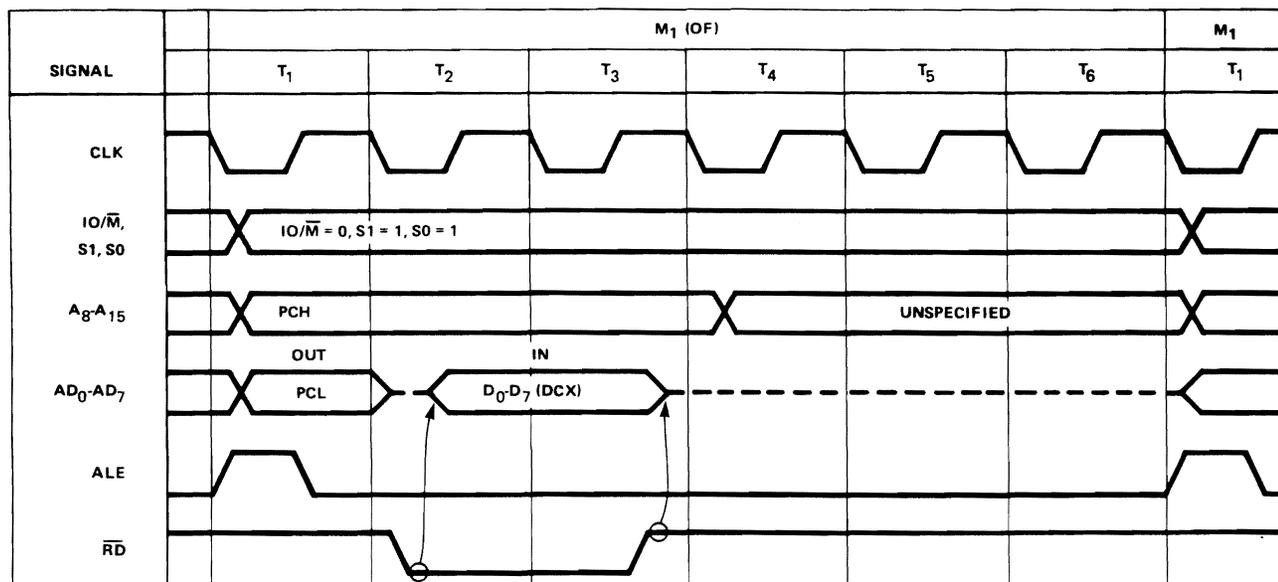
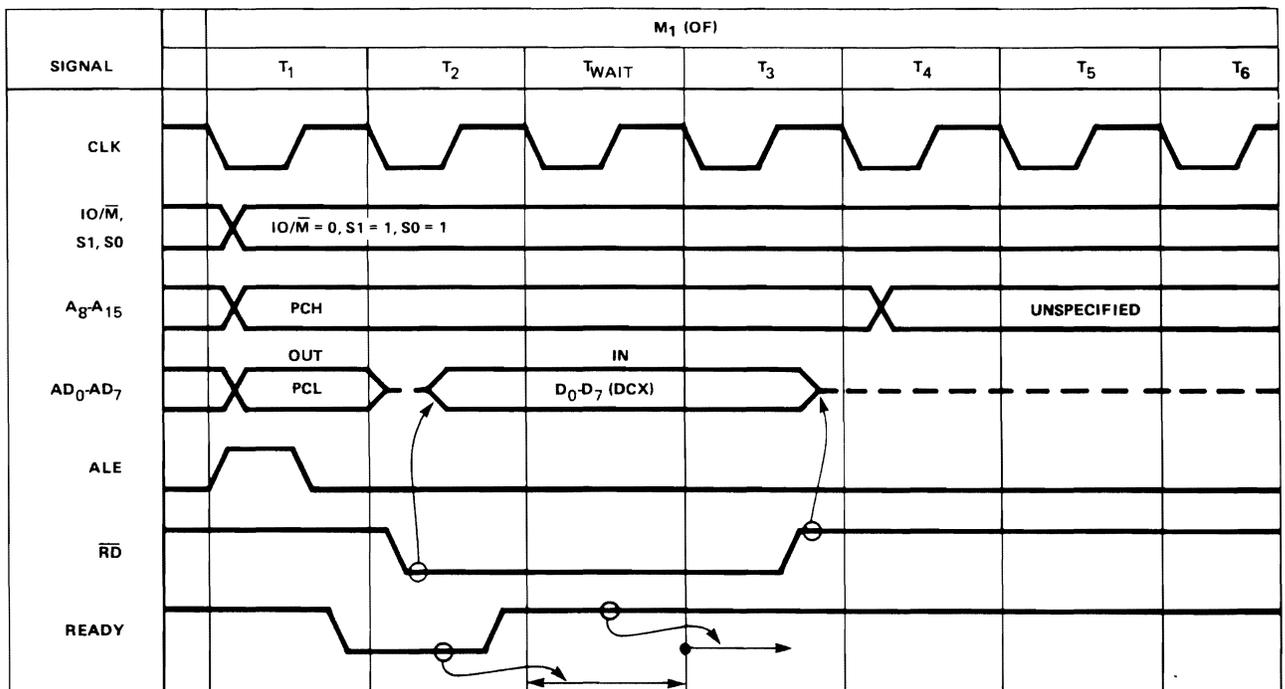
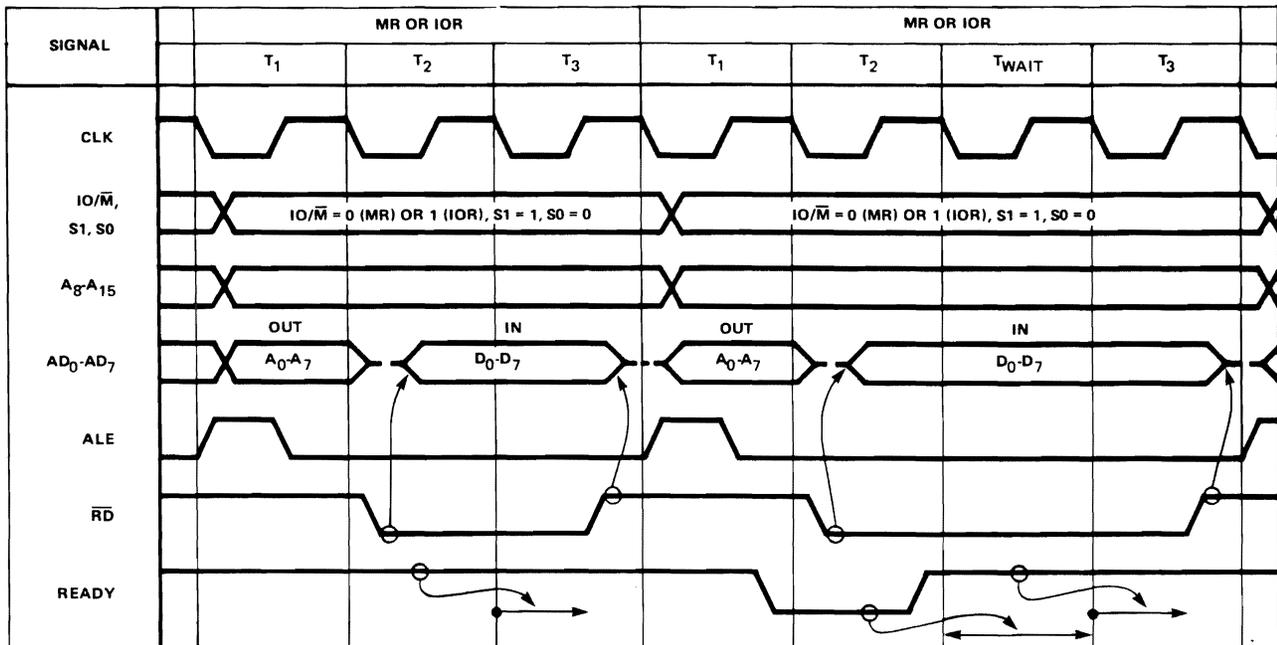

Figure 4-3. Opcode Fetch Machine Cycle
Figure 4-4. Opcode Fetch Machine Cycle (With Wait)
Figure 4-5. Memory Read (or I/O Read) Machine Cycles
Figure 4-3 shows the timing relationship of a typical opcode fetch machine cycle. At the beginning of T1 of every machine cycle, the CPU performs the following:
- c. Places low-order bits (PCL) of program counter onto address/data lines AD0-AD7. These address bits will remain true for only one clock cycle, after which AD0-AD7 go to their high-impedance state as indicated by the dashed line in figure 4-3.
Figure 4-4 is identical to figure 4-3 with one exception, which is the use of the READY input to the CPU. As shown in figure 4-4, the CPU examines the state of the READY input during  $T_2$ . If the READY input is high, the CPU will proceed to  $T_3$  as shown in figure 4-3. If the READY input is low, however, the CPU will enter the  $T_{wait}$  state and stay there until READY goes high. When READY goes high, the CPU will exit the  $T_{wait}$  state and enter  $T_3$ . The external effect of using the READY input is to preserve the exact state of the CPU signals at the end of  $T_3$  for an integral number of clock periods before finishing the machine cycle. This 'stretching' of the system timing, in effect, increases the allowable access time for memory or I/O devices. By inserting  $T_{wait}$  states, the CPU can accommodate slower memory or slower I/O devices. A common use of the READY input is to single-step the CPU using a manual switch. It should be noted, however, that access to the on-board memory and I/O ports does not impose a  $T_{wait}$  state.
Figure 4-5 shows the timing of two successive memory read machine cycles, the first without a  $T_{wait}$  state and the second with one  $T_{wait}$  state. Disregarding the states of the S0 and S1 lines, the timing during  $T_1$  through  $T_3$  is identical with the opcode fetch machine cycle shown in figure 4-3. The major difference between the opcode fetch and memory read cycles is that an opcode fetch machine cycle requires four or six T-states whereas the memory read machine cycle requires only three T-states. One minor difference between the two cycles is that the memory address used for the opcode fetch cycle is always the contents of the program counter (PC), which points to the current instruction; the address used for a memory read cycle can be one of several origins. Also, the data read from memory is placed into the appropriate register instead of the instruction register. Note that a
Figure 4-5 also illustrates the timing of two successive I/O read machine cycles, the first without a  $T_{wait}$  state and the second with one  $T_{wait}$  state. With the exception of the  $IO/\bar{M}$  status signal, the timing of a memory read cycle and an I/O read cycle is identical. For an I/O read,  $IO/\bar{M}$  is driven high to identify that the current machine cycle is referencing an I/O port. One other minor exception is that the address used for an I/O read cycle is derived from the second byte of an IN instruction; this address is duplicated onto both the A8-A15 and AD0-AD7 lines. The data read from the I/O port is always placed in the accumulator specified by the IN instruction. Note that a  $T_{wait}$  may be imposed by slower I/O devices as described for slower memory devices.